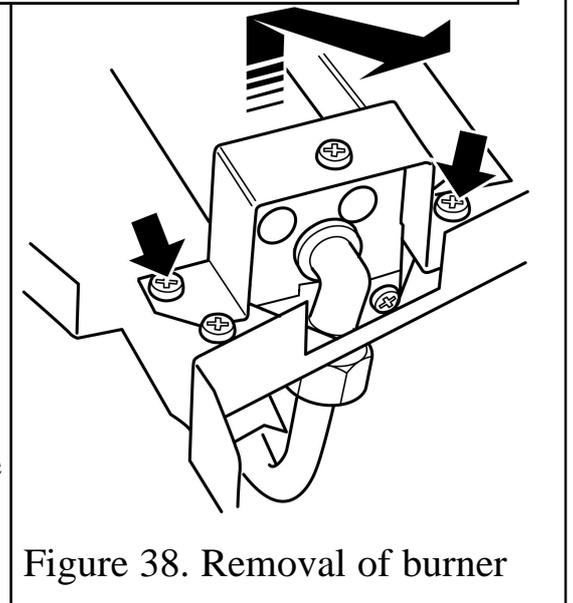

Figure 38. Removal of burner
(See figure 38).
3. Remove the two screws from the burner clamping plate (See figure 38)